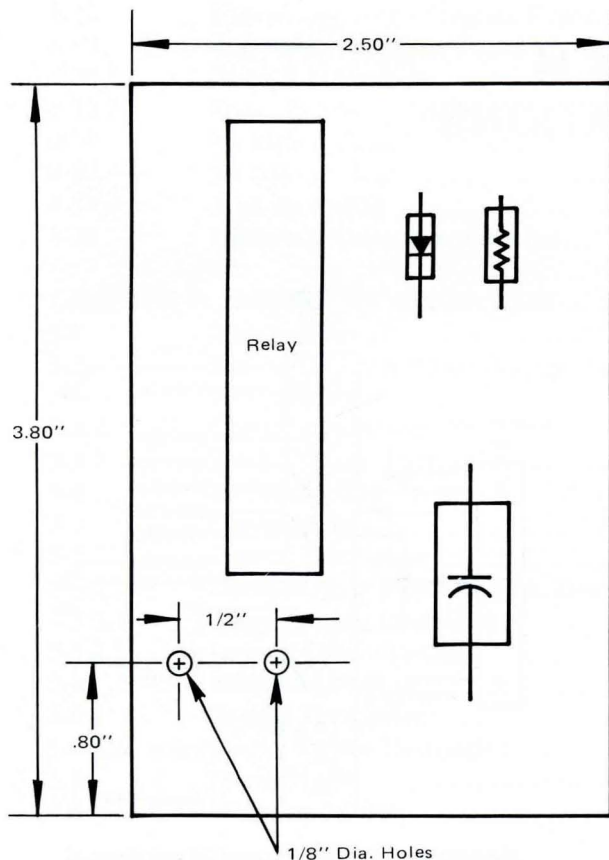

FIGURE B-2. Component Board
- (a) Install the resistor, capacitor, and relay on the component as depicted in Figure B-2.